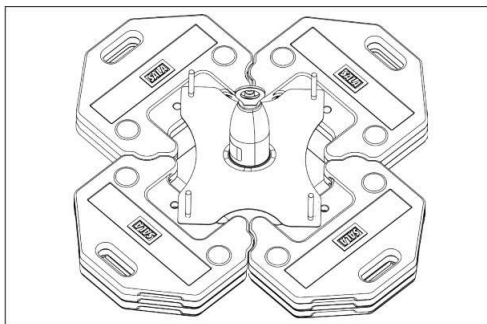

Figure 6
- Remove the LEAP Anchor and begin to assemble the counterweights onto the base plates, with the L-bolt protruding through the matching hole. For concrete, single-ply membrane, and bitumen membrane, stack three counterweights on each base plate. For asphalt sanded and asphalt stone chippings, stack four counterweights on each base plate. See Figure 6.
- Assemble the LEAP Anchor onto the L-bolts and counterweights. Make sure each bolt passes through one of the 1/2 in. diameter mounting holes in the base plate of the LEAP Anchor. See Figure 6.